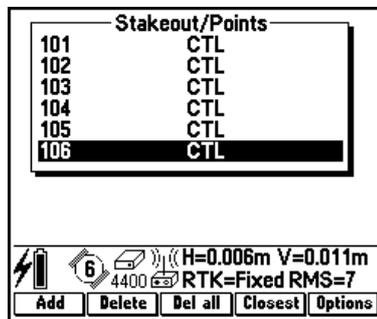

Figure 3.6 Stakeout/Points screen
2. Select *Stakeout / Points*. A screen similar to Figure 3.6 appears.